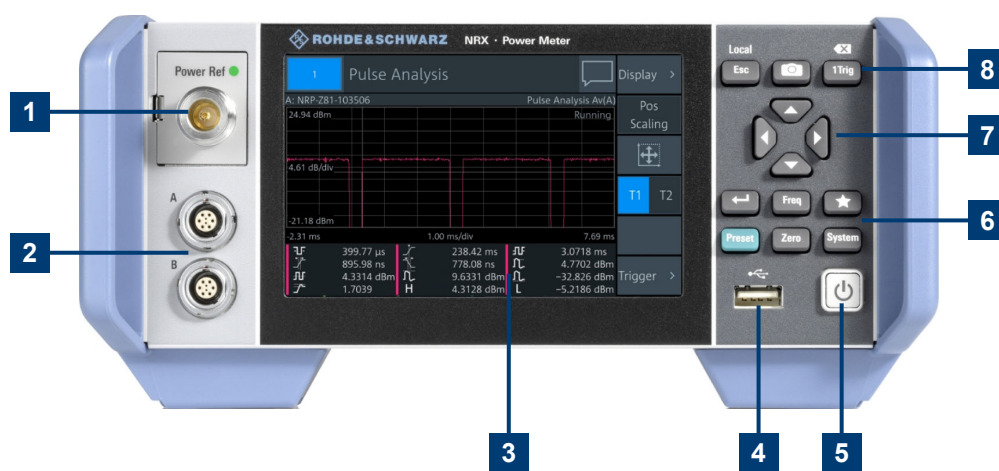

Figure 3-3: Front panel of the R&S NRX
See (2) in Figure 3-3.
See (1) in Figure 3-3.
See (3) in Figure 3-3.
See (4) in Figure 3-3.